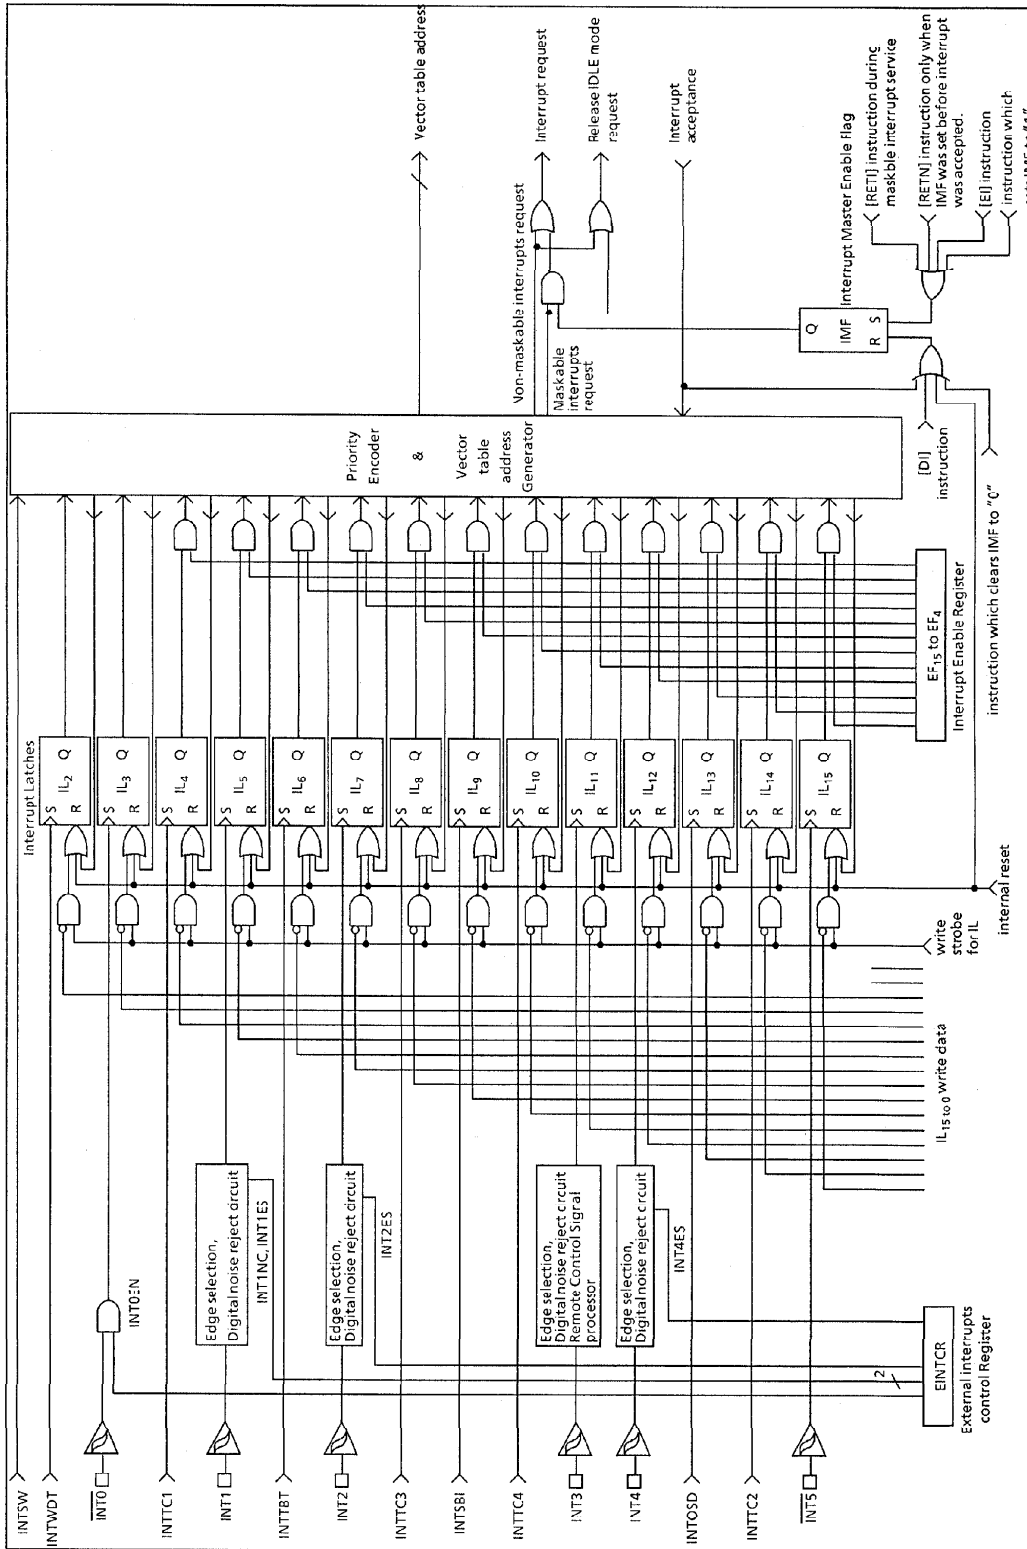

Figure 1-23. Interrupt Controller Block Diagram
The interrupt latch is set to "1" when an interrupt request is generated and requests the CPU to accept the interrupt. The acceptance of maskable interrupts can be selectively enabled and disabled by the program using the interrupt master enable flag (IMF) and the individual interrupt enable flags (EF). When two or more interrupts are generated simultaneously, the interrupt is accepted in the highest priority order as determined by the hardware. Figure 1-23. shows the interrupt controller.